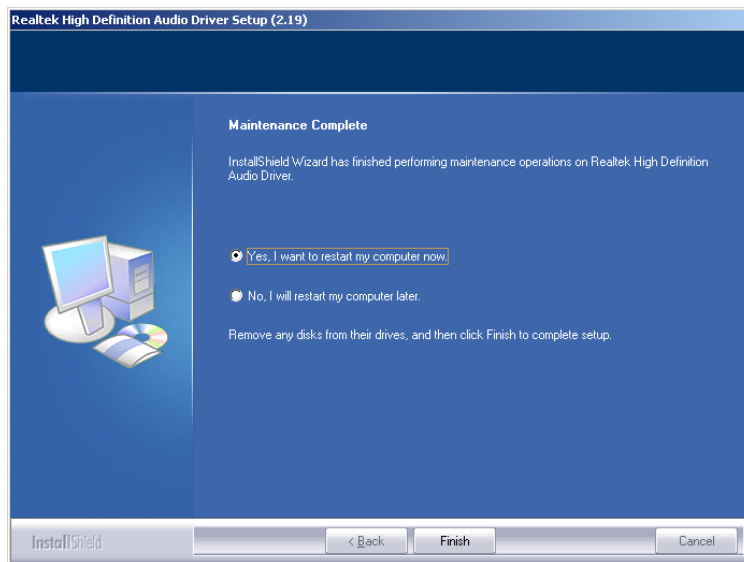

Figure 7-51: Restart the Computer
Step 13: After the driver installation process is complete, a confirmation screen appears (Figure 7-51).